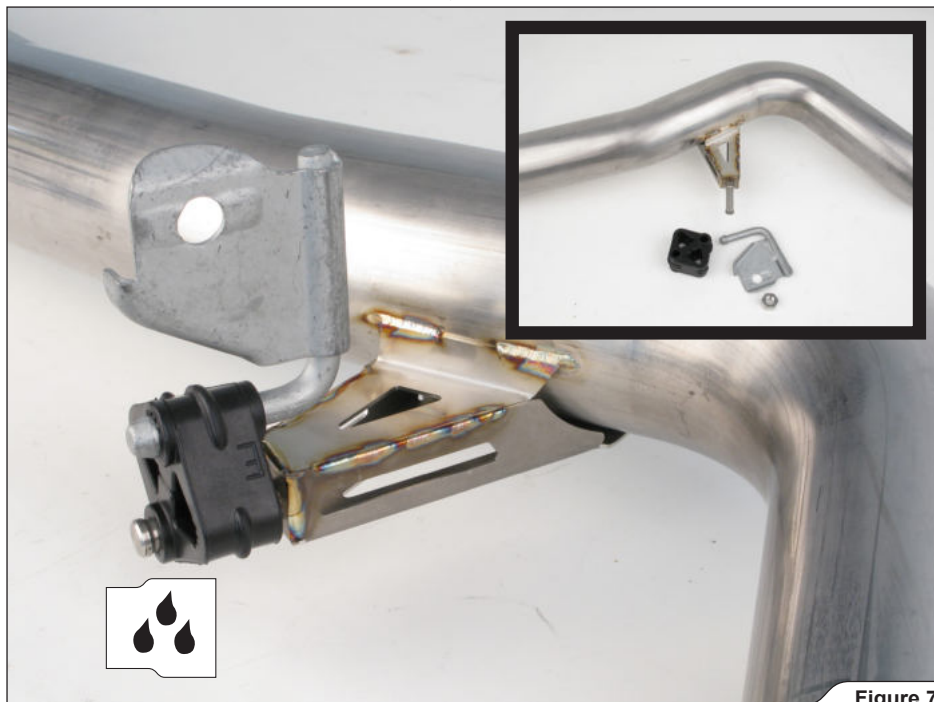

Figure 7
1. Assemble the rubber bracket from Akrapovič installation kit onto the link pipe, as shown (Figure 7).